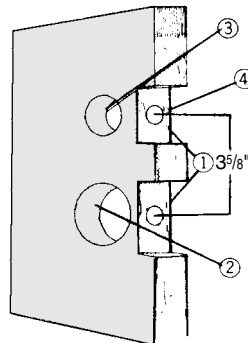

Figure 13.138 Two mortise cuts are required in the door edge in addition to the required holes. (M.A.G. Engineering and Mfg., Inc.)
2. See Fig. 13.138. Mortise out the front edge of the door (1) $2\frac{5}{8}$ inches high \times $\frac{1}{2}$ -inch deep in the center of the lock hole (2).
3. Using the template furnished with the deadbolt lockset, mark and drill holes (3) and (4) $3\frac{5}{8}$ inches from the center of the bottom hole.